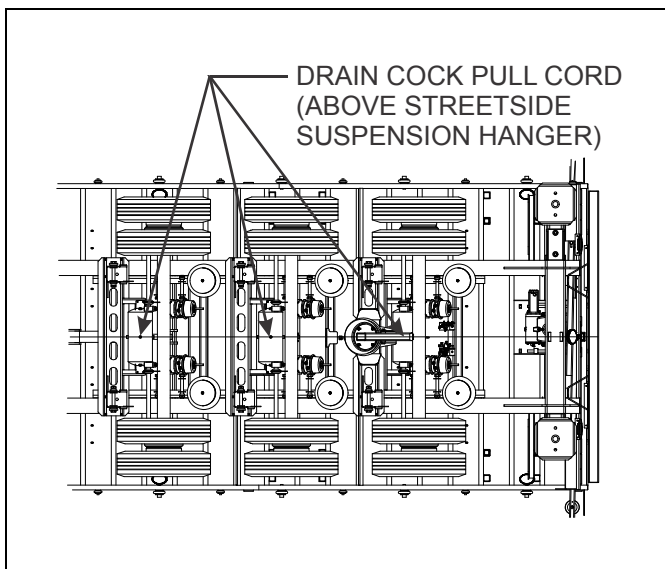

Figure 4-13: Drain Cock Locations
4. Drain air reservoir daily. A drain cock on the bottom of each air reservoir vents the tank to drain collected water and oil. If held open, air pressure in the tanks is relieved, causing the emergency or parking brakes to be applied (**See Figure 4-13.**)